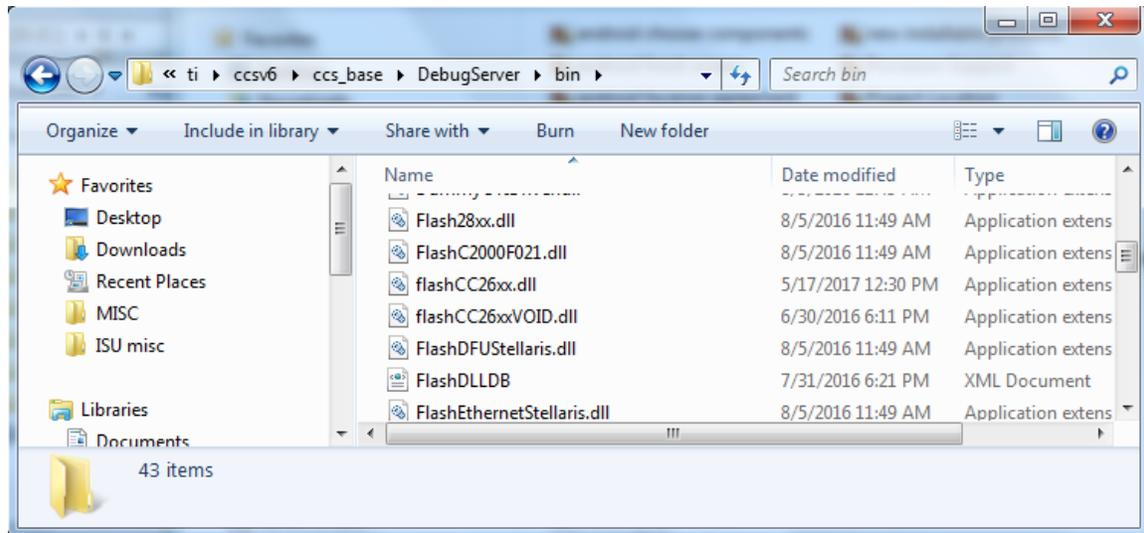

Figure 21, Updated <CCS62 INSTALL DIR>\ccsv6\ccs_base\DebugServer\bin directory.
f. The directory should now resemble Figure 21.